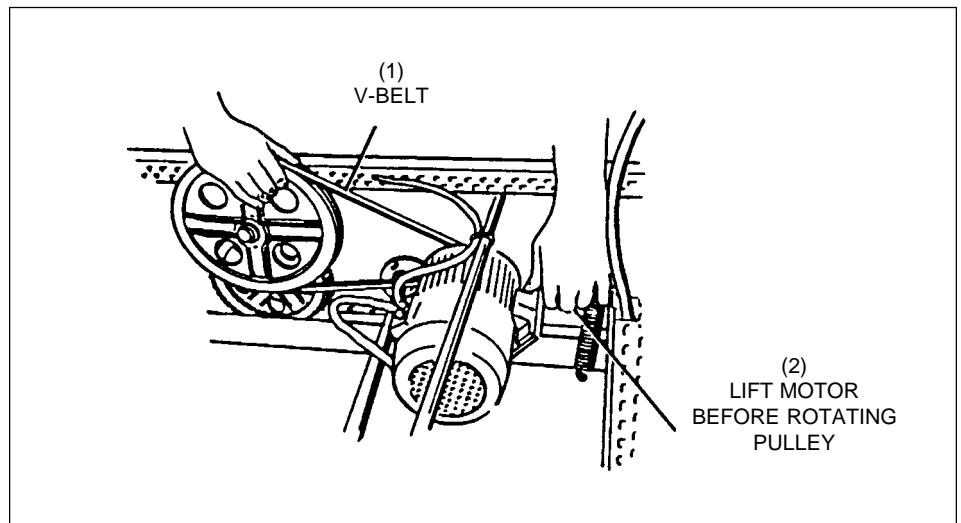

Figure 8-1. Manually Raising or Lowering the Setting Table.
3. *Firmly grip* the top of the large table V-belt pulley. Refer to Figure 8-1.
2. Manually lower the setting table assembly so it is supported by the spacers. Refer to *Figures 8-1* and *8-2*.
7. Manually rotate the setting table motor pulley to raise the deck rack tubes. Manually lift the sweep to the up position. Refer to *Figure 8-1*.